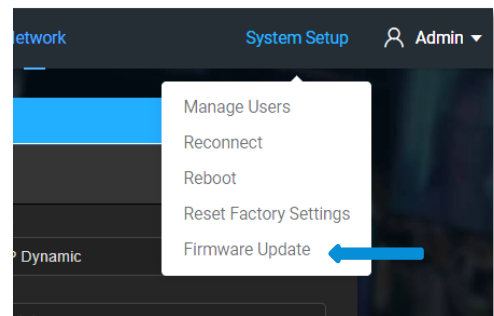

FIGURE 13
2. Click the *System Setup* tab at the top of Spark's webpage (Figure 13) and compare the *Firmware Update* shown to the number in the filename of the firmware version you downloaded. If the download has a higher revision number, continue below to perform the update.